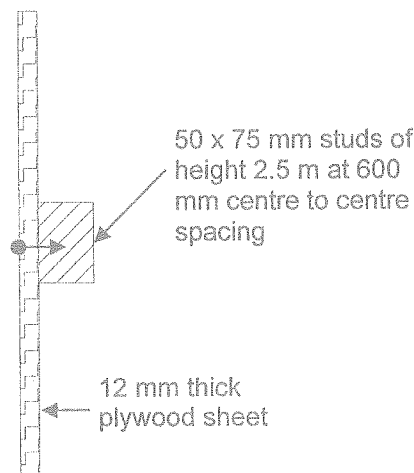

Figure Q1
- Q1. Figure Q1 shows a wall cladding used to construct an outer wall in a warehouse. This warehouse has plywood cladding screwed to timber studs. The warehouse is constructed at very dry windy environment with average wind suction of 1.75 kN/m^2 . 12 mm thick plywood sheets are attached using 4 mm diameter and 38 mm long countersunk headed screws. The strength class of the timber material is C14.